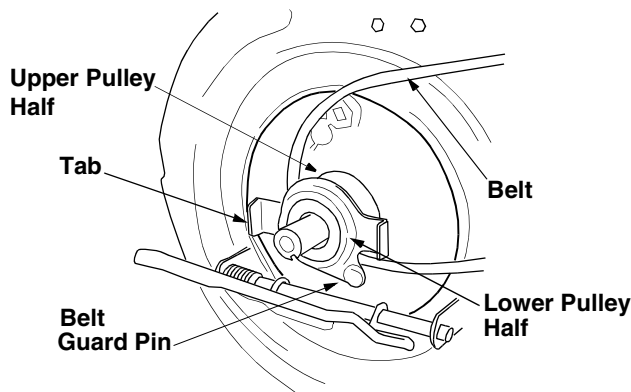

Figure 23
- Place the belt between the two pulley halves on the crankshaft. Make sure to route the belt inside the belt guard pin. See Figure 23.